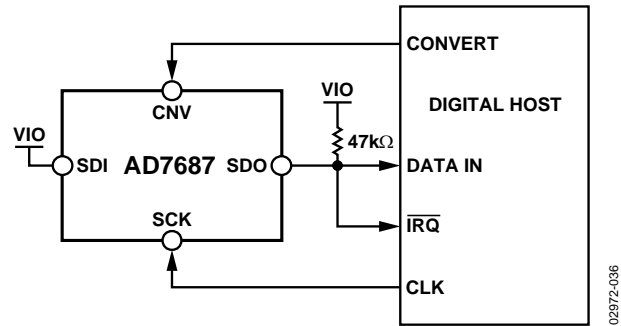
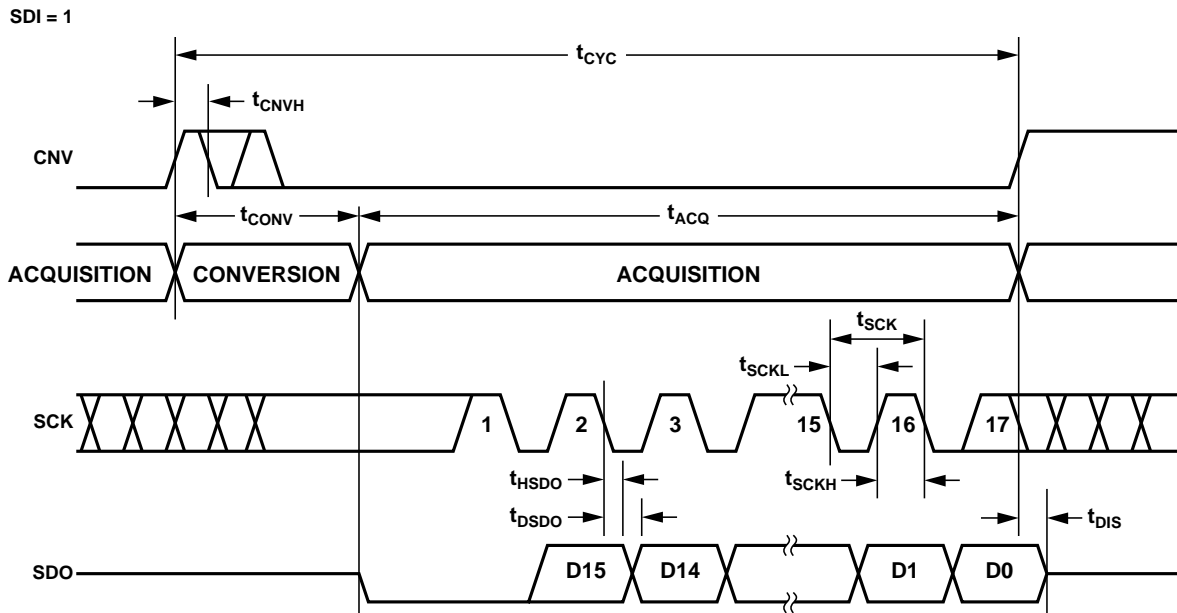
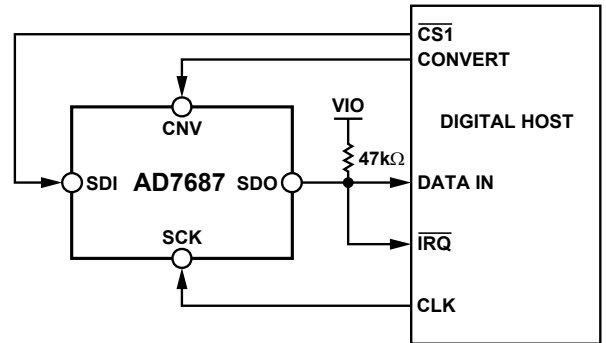
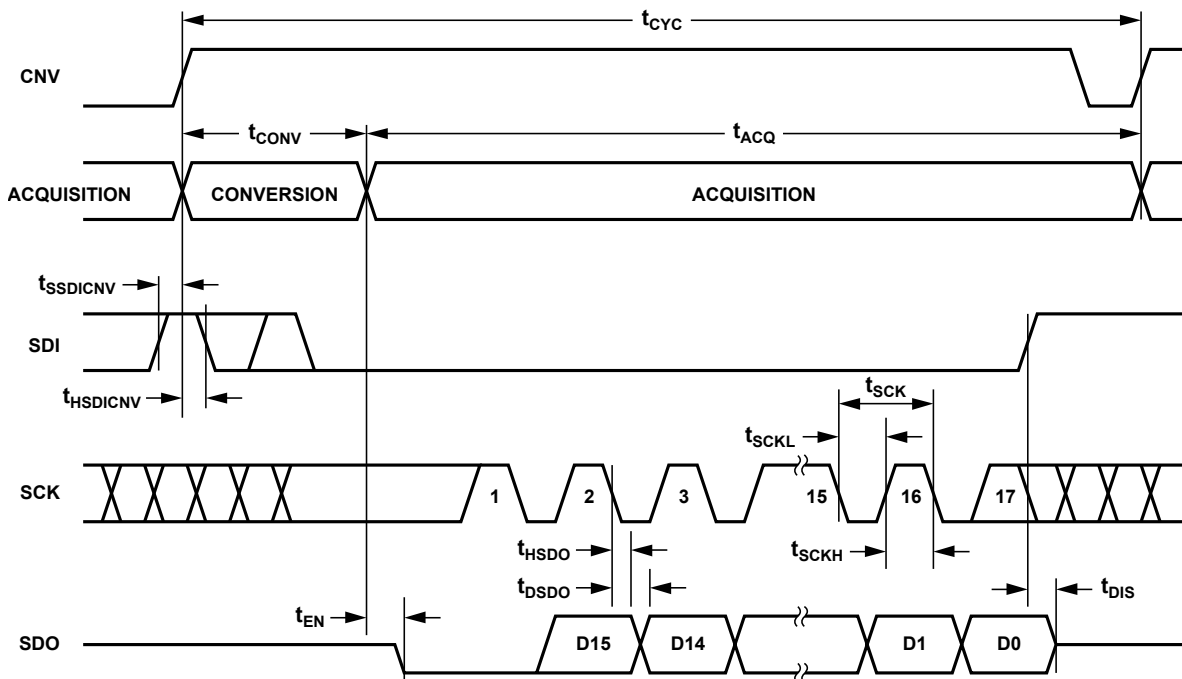

Figure 37. \overline{CS} Mode 3-Wire with BUSY Indicator Connection Diagram (SDI High)
Figure 38. \overline{CS} Mode 3-Wire with BUSY Indicator Serial Interface Timing (SDI High)
Figure 41. CS Mode 4-Wire with BUSY Indicator Connection Diagram
Figure 42. CS Mode 4-Wire with BUSY Indicator Serial Interface Timing
- In the \overline{CS} mode, if CNV or SDI is low when the ADC conversion ends (Figure 38 and Figure 42).
The connection diagram is shown in Figure 37 and the corresponding timing is given in Figure 38.
The connection diagram is shown in Figure 41 and the corresponding timing is given in Figure 42.